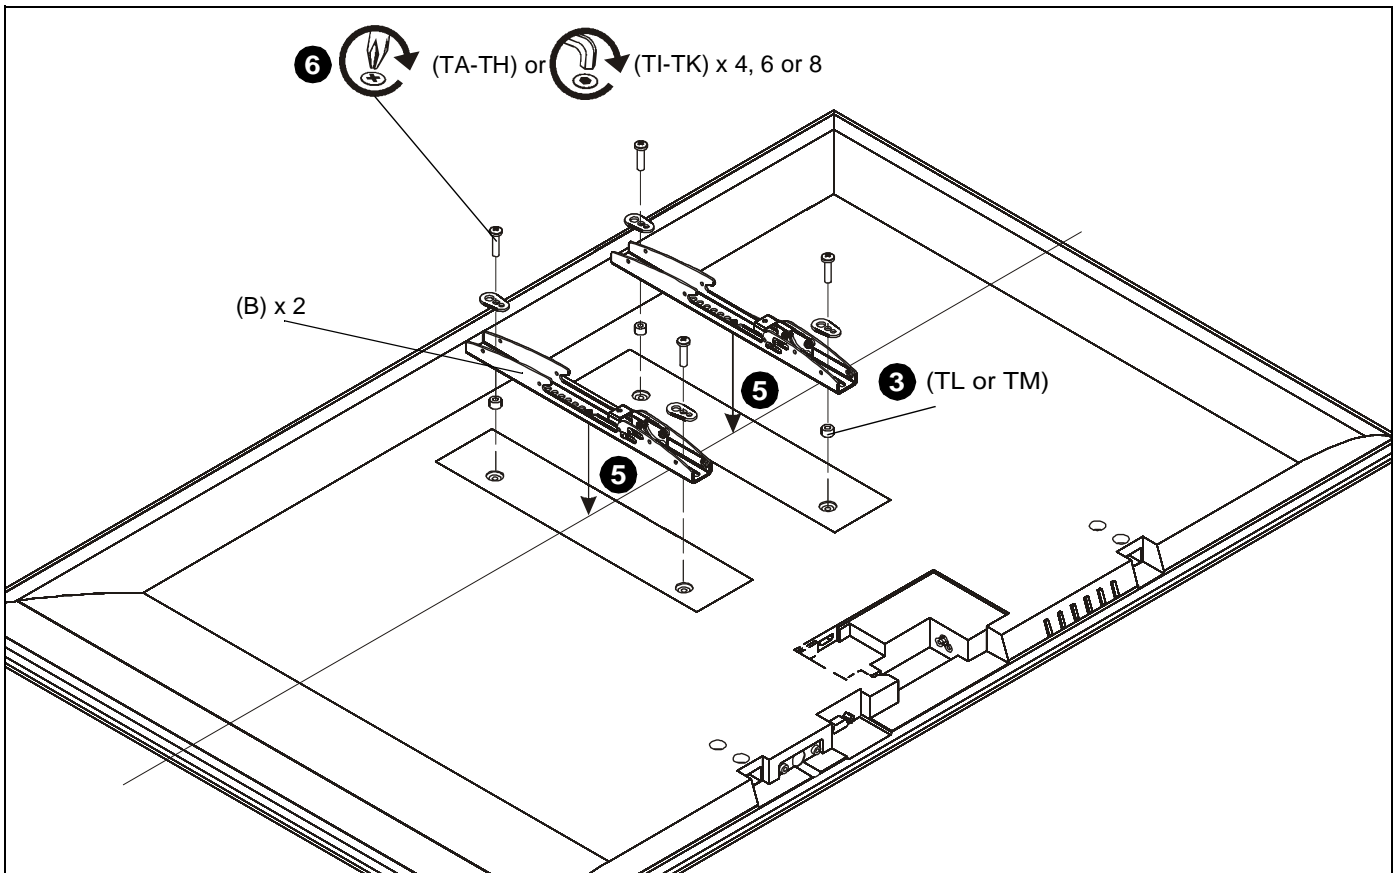

Figure 5
2. Select screw *diameter* by examining hardware (TA-TK) (4mm, 5mm, 6mm or 8mm) and comparing with mounting holes on display. (See Figure 5)
3. Select spacers: (See Figure 5)
- If mounting holes are not recessed and both uprights (B) can lay flat against display, then no spacers are required.
- If mounting holes are recessed, or if protrusions prevent uprights (B) from laying flat, then spacers (TL or TM) must be used.
4. Select screw *length*: (See Figure 5)
- Using your hand, insert **SHORTEST** length screw of selected diameter (TA, TD, TG or TI) through universal washer (TN), uprights (B), selected spacer (TL or TM), into display mounting hole. Do **NOT** thread screw into hole at this time.
5. Place uprights (B) on display, ensuring: (See Figure 5)
- Center of uprights (B) are as close to the center of the back of display as possible after being installed. Center of bracket is indicated by the diamond-shaped hole.
6. Use selected screws and spacers to install two interface uprights (B) to back of display. (See Figure 5)